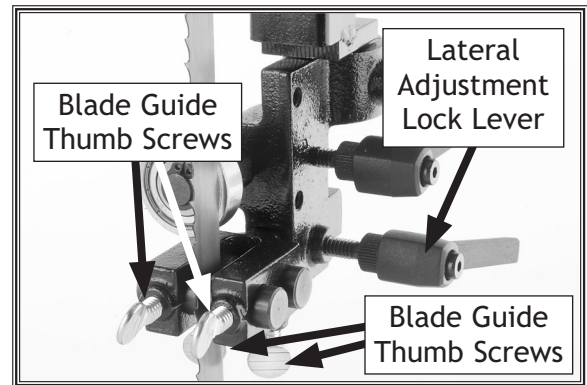

Figure 28. Blade guide controls.
3. Familiarize yourself with the blade guide controls shown in **Figure 28**.